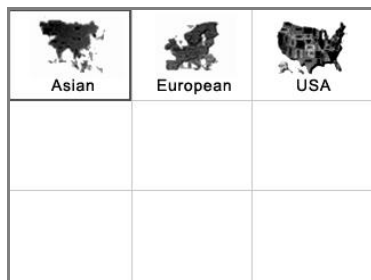

Figure 6.1
4. Select a specific vehicle manufacture's regional coverage. (Figure 6.1)